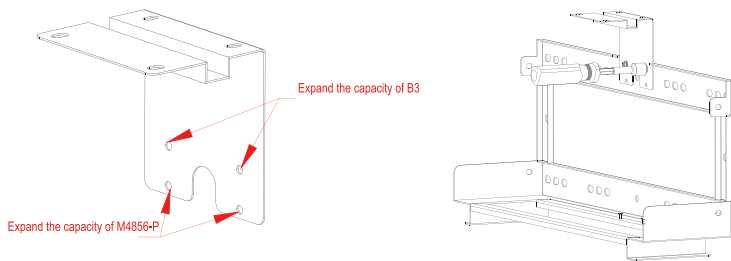

Figure 2.21 Install M4856-P Expansion Bracket
Step 4 Use SW7 sleeve or other tools for the M4 flange and M4 flange nuts to connect the M4856-P wall bracket to the expansion bracket, as shown in Figure 2.21.